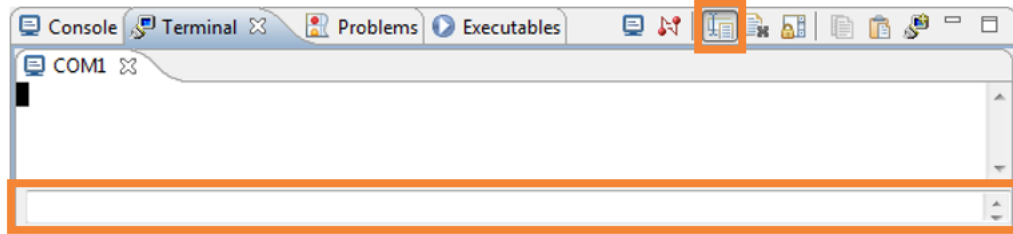

Figure 3.54. Terminal View
5. (Optional) Click the **Toggle Command Input** icon that adds an edit box to enter text (Figure 3.54).